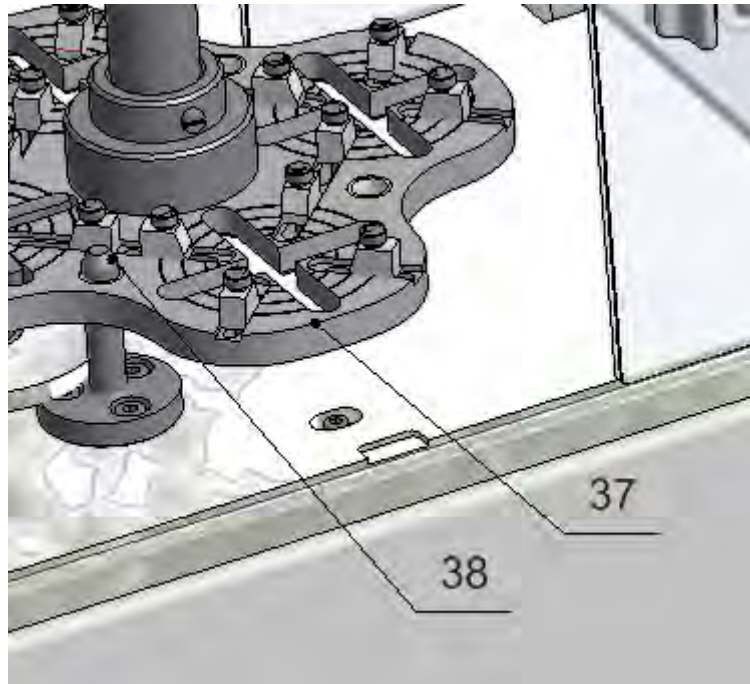

Fig. 11
- 27.1. Make sure that the plate (37) takes lower position (the fixing mandrel (38) shall be placed inside a reel sleeve). (Fig.11)